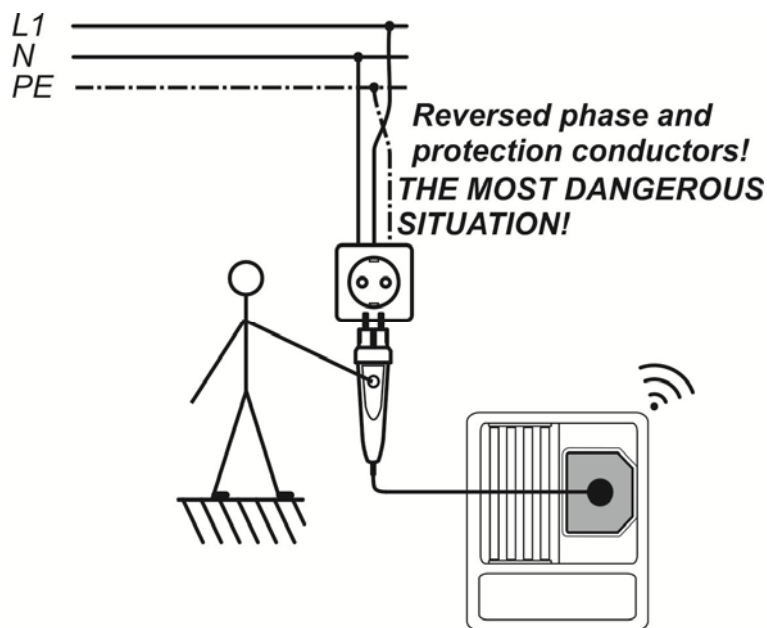

Figure D.4: Reversed L and PE conductors (application of plug commander)
- ❑ **Connect** commander to the item to be tested (see figure D.4).